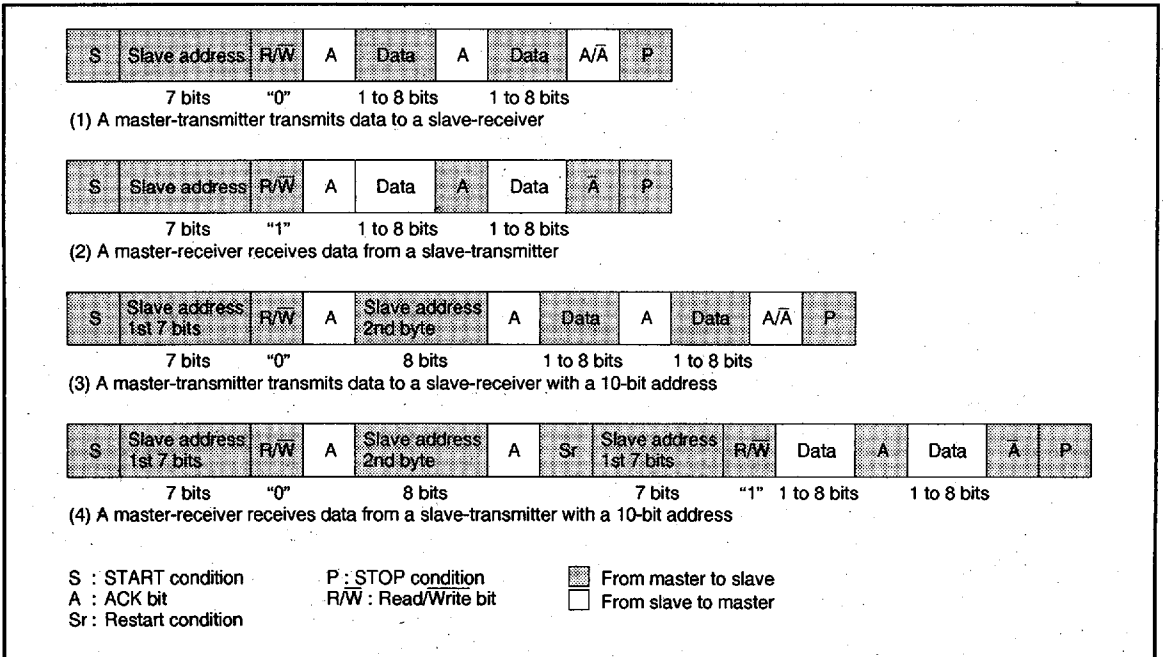

Fig. 43 Address data communication format
To meet the 7-bit addressing format, set the 10BIT SAD bit of the I2C control register (address 00F916) to "0." The first 7-bit address data transmitted from the master is compared with the high-order 7-bit slave address stored in the I2C address register (address 00F716). At the time of this comparison, address comparison of the RBW bit of the I2C address register (address 00F716) is not made. For the data transmission format when the 7-bit addressing format is selected, refer to Figure 43, (1) and (2).
When the first-byte address data matches the slave address, the AAS bit of the I2C status register (address 00F816) is set to "1." After the second-byte address data is stored into the I2C data shift register (address 00F616), make an address comparison between the second-byte data and the slave address by software. When the address data of the 2 bytes matches the slave address, set the RBW bit of the I2C address register (address 00F716) to "1" by software. This processing can match the 7-bit slave address and R/W data, which are received after a RESTART condition is detected, with the value of the I2C address register (address 00F716). For the data transmission format when the 10-bit addressing format is selected, refer to Figure 43, (3) and (4).
**(10) Example of Master Transmission**